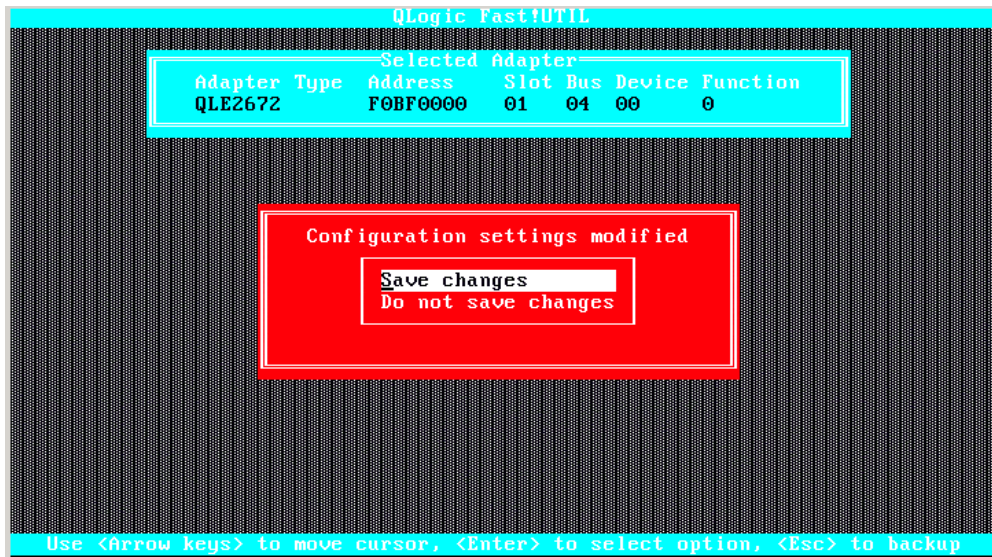

Figure 3-9. Save Your Changes
5. Select **Save changes**, and then press ENTER, as shown in Figure 3-9.